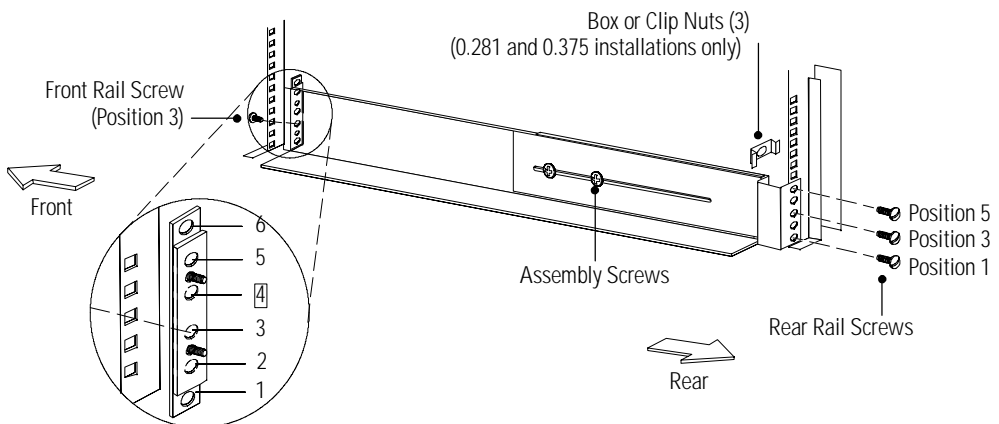

Figure 3. Securing the Rail Assembly
4. For 0.281 and 0.375 installations only, install three box or clip nuts in the rear of each assembly (see Figure 3).
5. Secure both rail assemblies to the rack with three rear rail screws (see Figure 3).
6. Secure both rail assemblies to the rack with front rail screws at position 3 (see Figure 3).